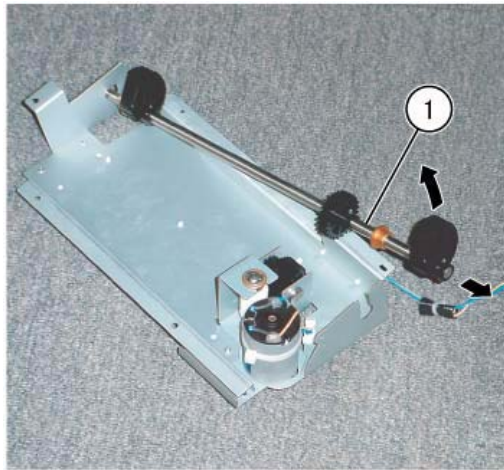

Figure 9 Removing the Stacker Shaft Assembly
15. Remove the Stacker Shaft Assembly (Figure 9):